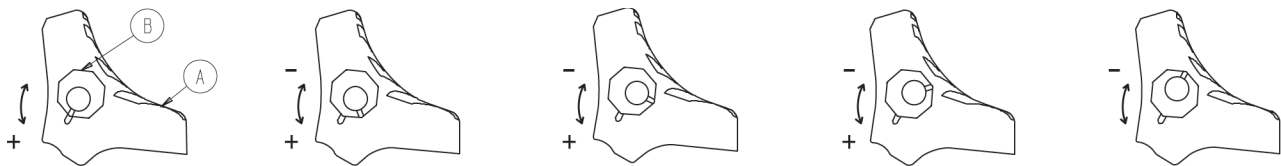

Figure 12: Wheel locking force adjustment
1. Using the 5/32" hex wrench and 7/16" combination wrench or socket, remove the socket screw from the center of the lock pedal. The wheel lock is initially assembled with the pedal set at the minimum locking force. The marker on the pedal (A) is aligned with the marker on the octagonal sleeve (B) (Figure 12 on page 46).
2. Remove the sleeve (B). Rotate the sleeve counterclockwise to increase the pedal locking force and clockwise to decrease the locking force. Insert the sleeve into the pedal (Figure 12 on page 46).